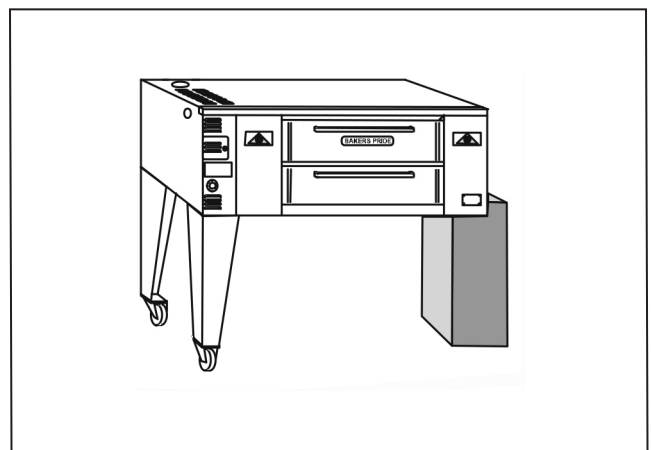

Figure 6
- Using proper lifting equipment, lower the oven from its back to its bottom. Lift the unit and set on stand. (See Fig. 6).